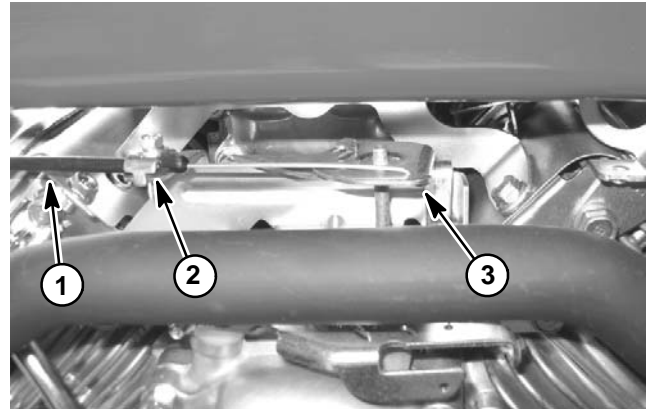

Figure 2
1. Park machine on a level surface, disengage and lower cutting units, move functional control lever to neutral (N), engage parking brake, stop the engine and remove the key from the ignition switch. Wait for all machine movement to stop.
3. If throttle cable adjustment is needed (Fig. 2):